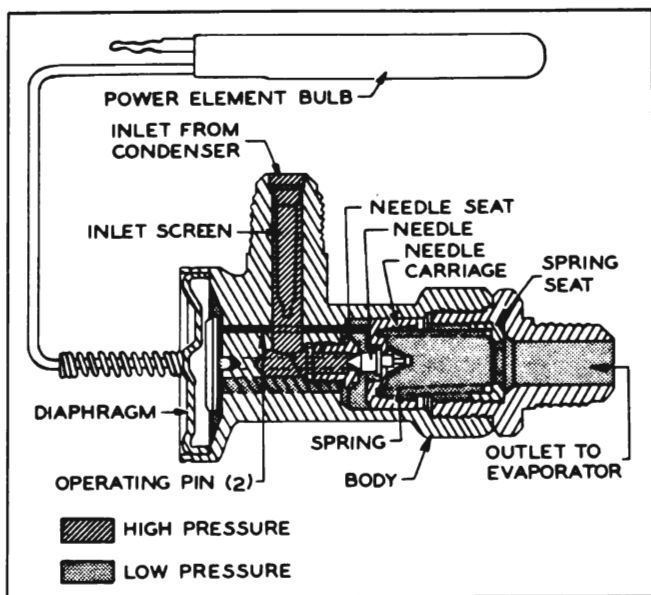

Figure 11-35—Non-adjustable Expansion Valve
4. *Thermostatic Expansion Valve.* The expansion valve is located at the bottom of the evaporator core on the outside of the case. The liquid enters the valve at the $\frac{3}{8}$ " flare fitting, passes through the needle seat orifice, and leaves the valve at the $\frac{1}{2}$ " flare connection and enters the evaporator. See figure 11-35.